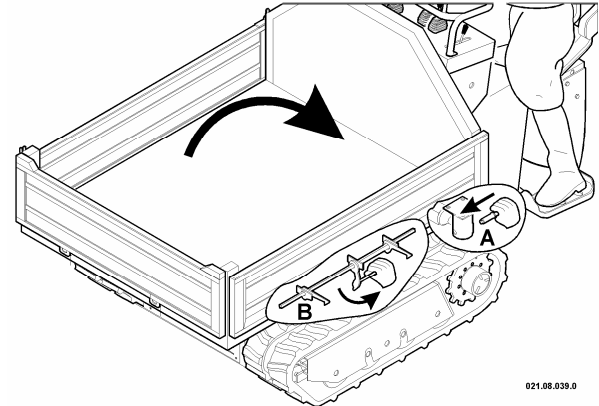

fig. 48 – Unloading from side
depends on the position of the two “A” pins (see fig. 48):
**CAREFUL:** When raising the body for unloading from one side, if you see that the gate does not automatically open, lower the body once more and manually open the gate by pulling lever B under the body platform (see fig. 48). Then raise the body once more. To re-enable automatic gate opening, at the earliest opportunity, the operator is advised to adjust the rods located in the vicinity of the levers under the body platform.